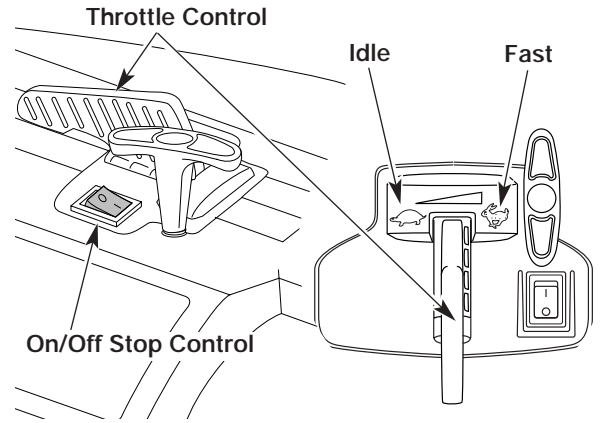
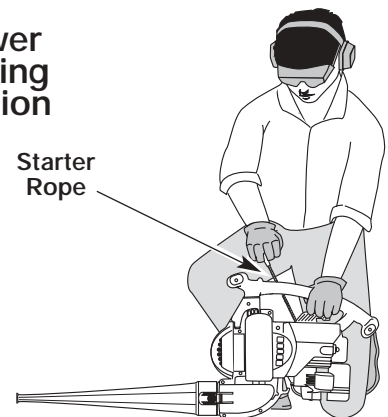
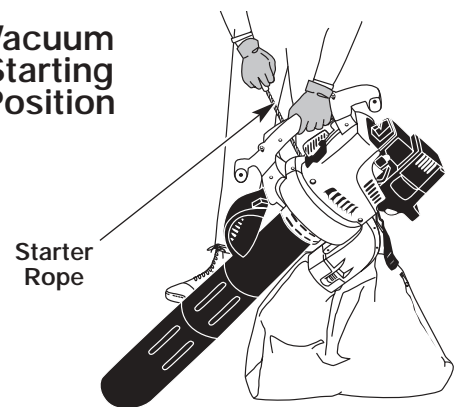

Fig. 10
Fig. 12
Fig. 13
WARNING: Avoid accidental starting. Make sure you are in the starting position when pulling the starter rope (Fig. 12 and 13). To avoid serious injury, the operator and unit must be in a stable position while starting.
3. Place the unit in the starting position (Fig. 12 as a blower, Fig. 13 as a vacuum). *Move the throttle control to the **idle position*** (🐢) (Fig. 10). This is especially important during cold starting.